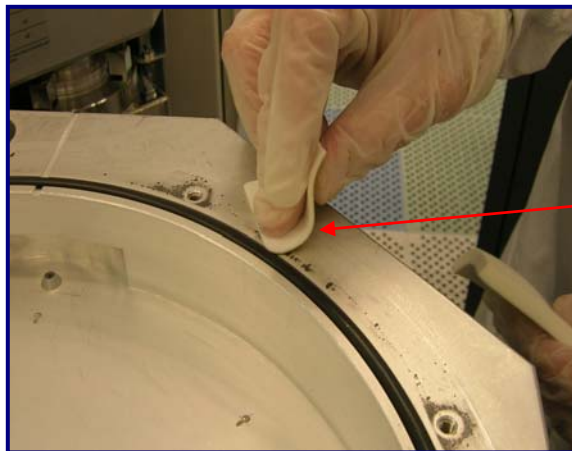

Fig 4: Moist ScrubPAD scrubbing top edge of cool station chamber
Step 5: Take **lightly dampened** 360 Grit Diamond ScrubPAD and scrub buildup along the top edge of the cool station chamber (See Fig 4)